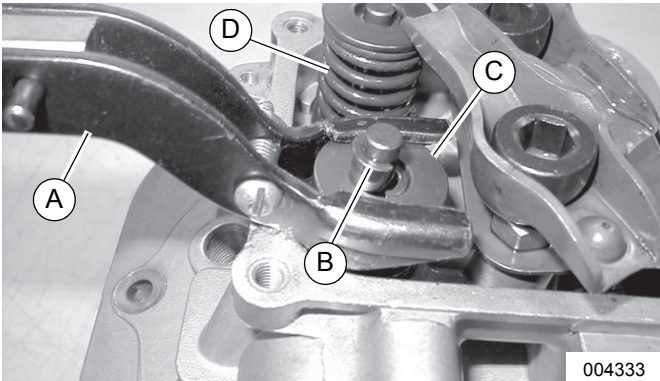

Figure 7-5. Remove Retainers
2. See Figure 7-5. Hold down valve spring retainer with a valve spring compressor (A). Remove the following:
- a. Valve spring keepers (B)
- b. Valve spring retainer (C)
- c. Valve spring (D)